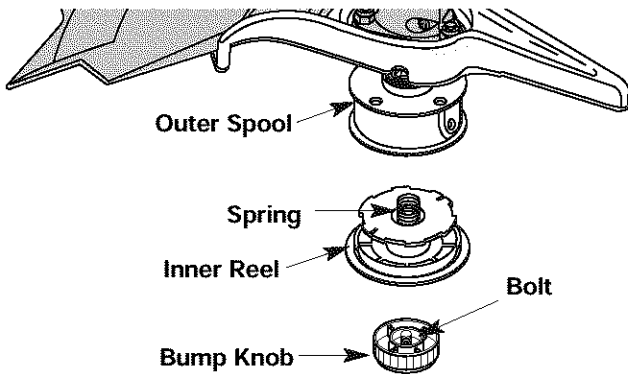

Fig. 27
1. Hold the outer spool with one hand and unscrew the Bump Knob clockwise (Fig. 27). Inspect the bolt inside the bump knob to make sure it moves freely. Replace the bump knob if damaged.
2. Remove the inner reel from the outer spool (Fig. 27).
3. Remove spring from the inner reel (Fig. 27).
2. Remove the old inner reel from the outer spool (Fig. 27).
3. Remove the spring from the old inner reel (Fig. 27).